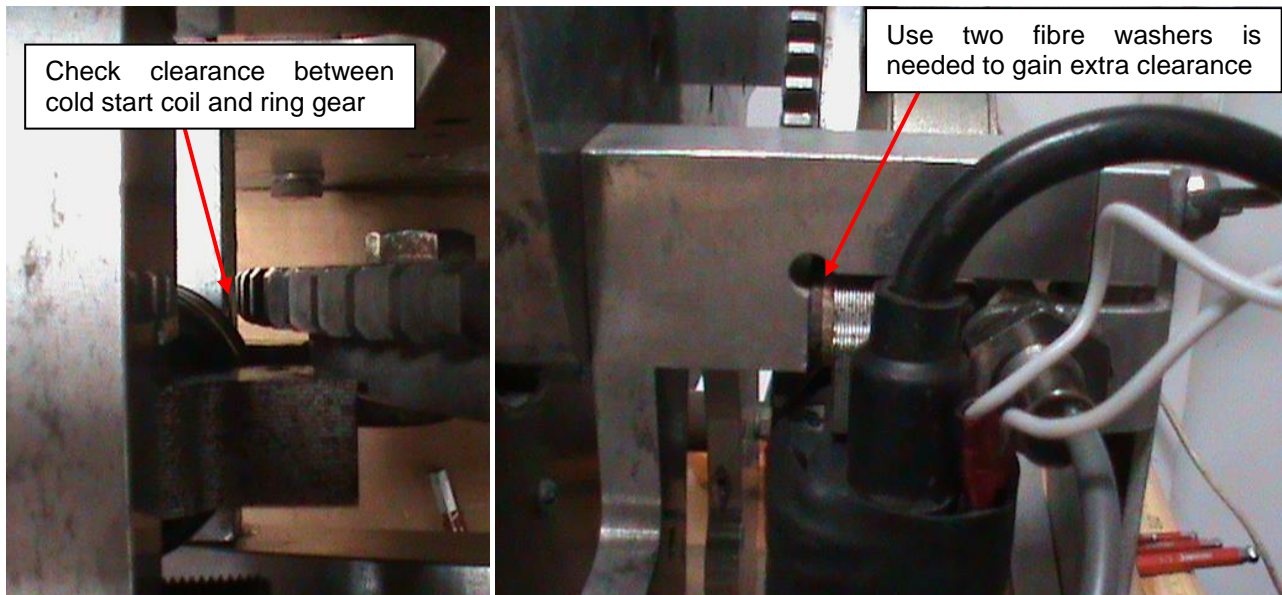

Figure 1 - Check cold start coil clearance from ring gear
- Before going any further check there is adequate clearance between the modified cold start coil and the flywheel ring gear (shown in Figure 1 left) if required two fibre washers should be used instead of one to gain more clearance (shown in Figure 1 right).